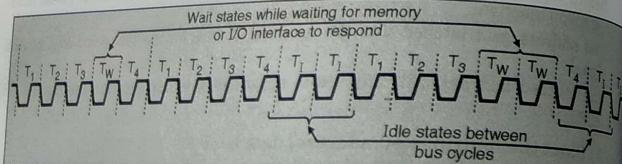

Fig. 11.18.1(b) : Concept of WAIT T-states
- Refer to the waveforms of Fig. 11.18.1(a), in which the memory access time has been marked. It is defined as the time taken by the memory to output valid data after it receives an address and a \overline{RD} signal.
- But if the READY input is made low at the appropriate instant in a machine cycle, then the 8086 will insert one or more "WAIT" T-states between the T-states T_1 in the machine cycle as shown in Fig. 11.18.1(b).
- If the external data buffers are used then the \overline{DEN} and $\overline{DT/R}$ signals will come into play. Refer to the waveforms shown in Fig. 11.18.1 (a).